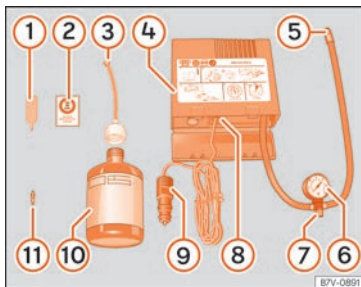

Fig. 100 Standard display: contents of the anti-puncture kit.
»» **Fig. 100:**
Screw the inflator tube »» Fig. 100 ⑤ again and check the pressure on the gauge ⑥.